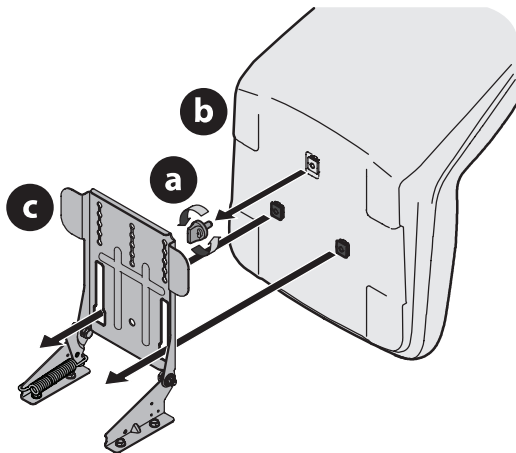

Figure 2
2. Remove the seat adjustment knob or 9/16 inch bolt (a) from the bottom of the seat (b) (Figure 2).
3. Align the seat (b) over the seat pivot bracket (c) (Figure 2) and fit the seat (b) onto the seat pivot bracket (c) inserting the two tabs on the seat (b) bottom into the wide opening of the slots on the seat pivot bracket (c).